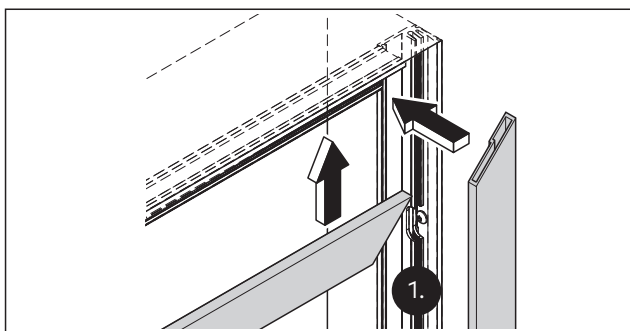

Fig. 23 Example of the fixed glazing adapter mounting on corner joint with miter
1. Position the fixed glazing adapters (Fig. 23).